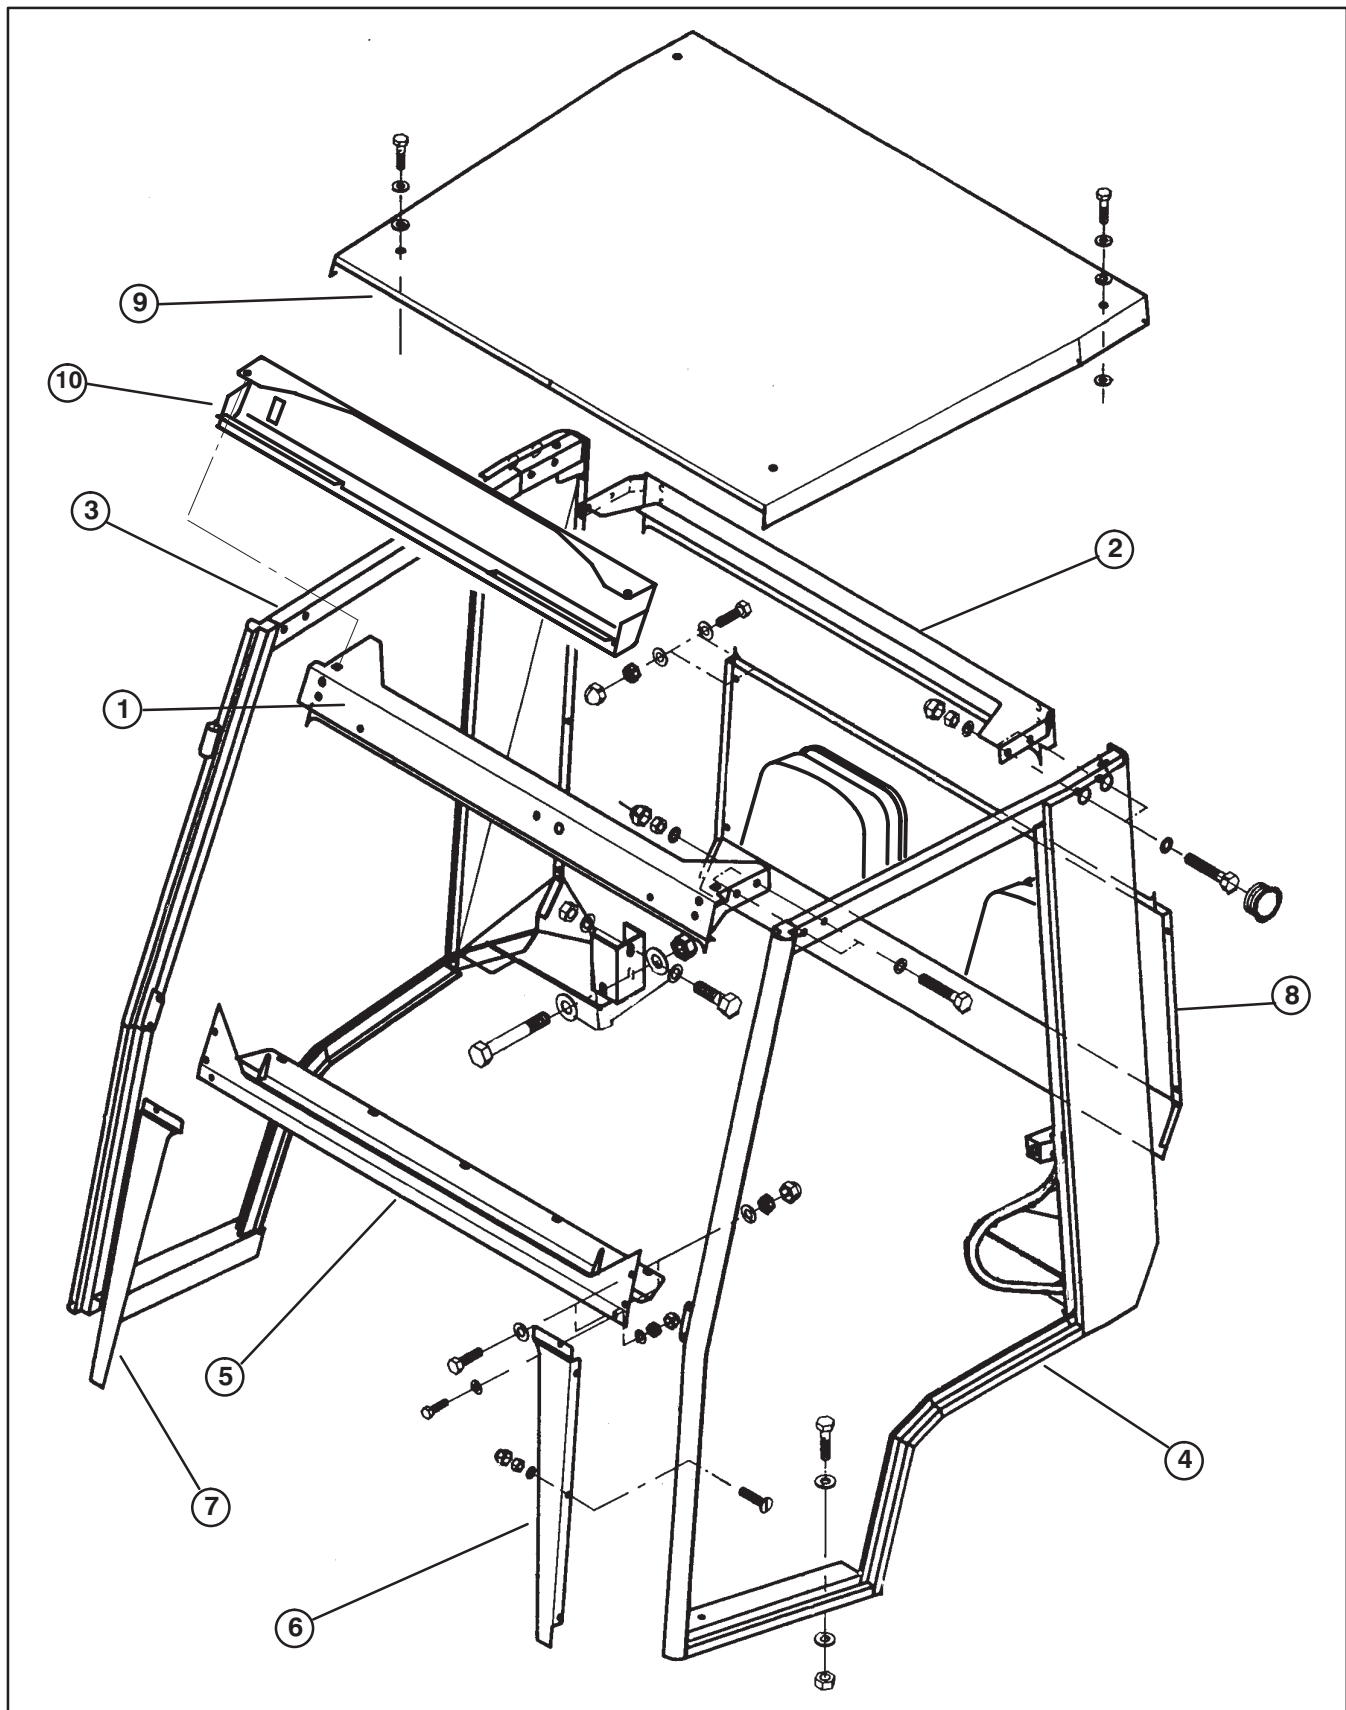

Figure 13
24. Loosely secure each end of front and rear upper supports to right and left side door frames with (2) M10 x 60 mm capscrews, (4) washers and nuts. Washers to be positioned to the outside of mating parts. Position components as shown in figure 13. Make sure wire harness from top of left side door frame is routed over upper support toward inside of cab.
25. Loosely secure each end of lower front support to front of side door frames with (2) M6 x 16 mm capscrews, (4) washers and nuts. Washers to be positioned to the outside of mating parts. Position components as shown in figure 13.
26. Loosely secure left, front cover shield to left door frame with (3) M8 x 45mm screws, washers and nuts. Position components as shown in figure 13.
27. Loosely secure top of left, front cover shield to lower front support a M8 x 20mm capscrew, washer and nut. Position components as shown in figure 13.
29. Loosely secure rear panel to rear of side door frames with (6) M8 x 45mm capscrews, (12) washers and nuts. Position components as shown in figure 13.
32. Loosely secure right rear corner of cab to ROPS receiver with a M12 x 35mm capscrew, (2) washers and nut and with a M12 x 90mm capscrew, (2) washers and nut.
34. Using bottom of door frame as a template, locate, mark and drill (3) .438" dia. holes (per side) in vehicle floor.
35. Secure bottom of each door frame to vehicle floor with (3) M12 x 35mm capscrews, (2) washers and nuts (Fig. 13). Tighten fasteners securely.
37. Loosely secure remaining holes of lower front support to trim bracket and hood with (3) M8 x 25mm capscrews and nuts.
55. Position roof onto cab frame aligning mounting holes with holes in front and rear supports and wiper motor cover (Fig. 13). Make sure wire harness is not pinched but only compressed by roof head liner foam.
56. Secure roof and wiper motor cover to front support with (2) M8 x 35mm capscrews, washers and washer seals (Fig. 13).
57. Secure roof to rear support with (2) M8 x 55mm capscrews, washers and washer seals (Fig. 13).